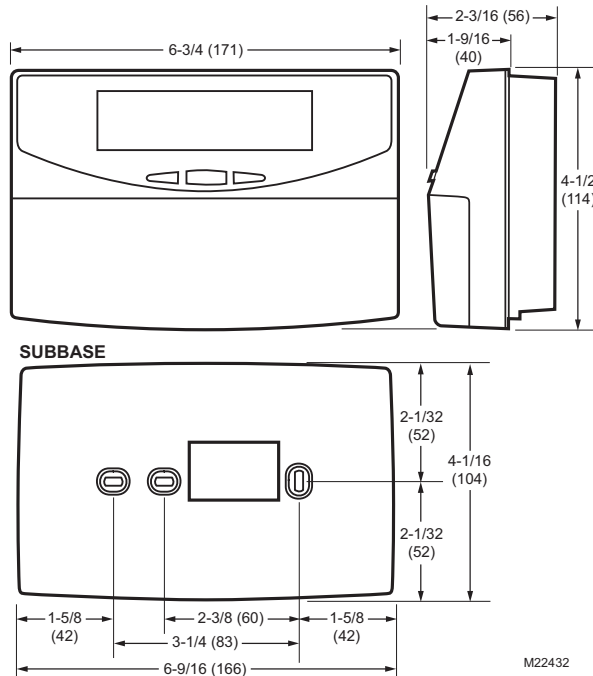

Fig. 1. Thermostat and Subbase Dimensions in inches (mm).
**Dimensions:** Refer to Fig. 1.